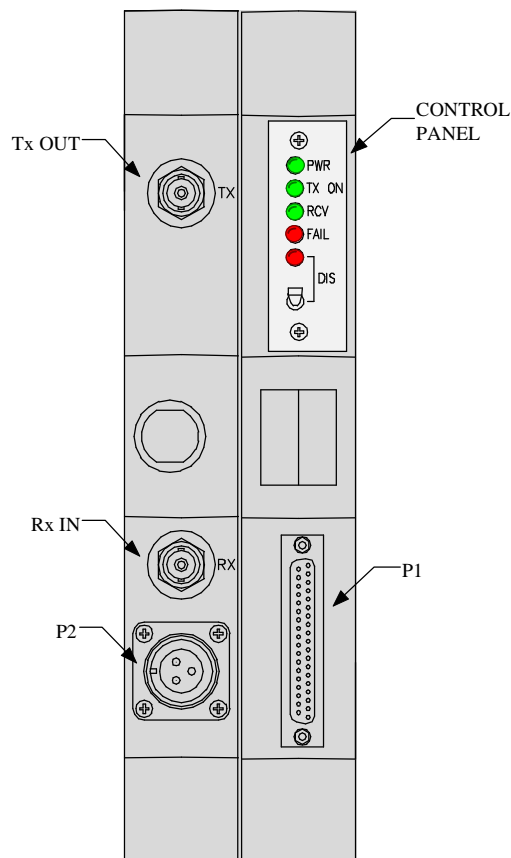

Figure 1 - Translator Front Panel Indicators
The translator, shown in Figure 1 has an indicator panel with a switch and five (5) LEDs, Input and output BNC connectors and a 37-pin “D” connector. The LEDs provide an external confirmation of translator operation.